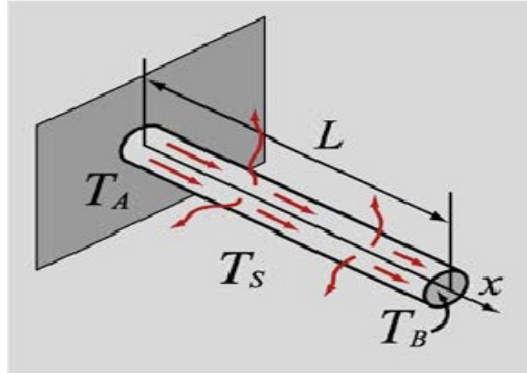

Figure 3: Figure for Problem 7: Heat transfer through a fin.
7. A fin is an extended surface used to transfer heat from a base material (at $x = 0$) to an ambient space. Heat flows from the base material through the base of the fin, through its outer surface, and through the tip (see Fig. 3 for reference). Measurement of the temperature distribution along a fin gives the following data (see attached text file):